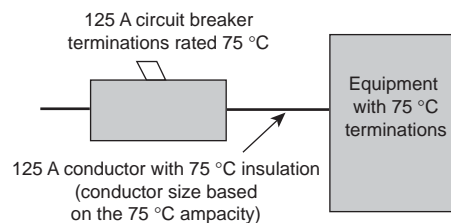

Figure 7: Conductors Rated 75 °C
- a. Conductors rated 75 °C (see Figure 7).